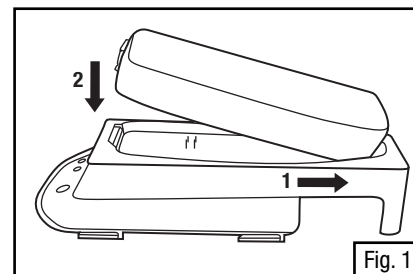

Fig. 1
- o Insert the battery pack into the TR-340 charging cradle by sliding the back end of the battery pack in first. Push down to click the front end into place (Fig. 1).